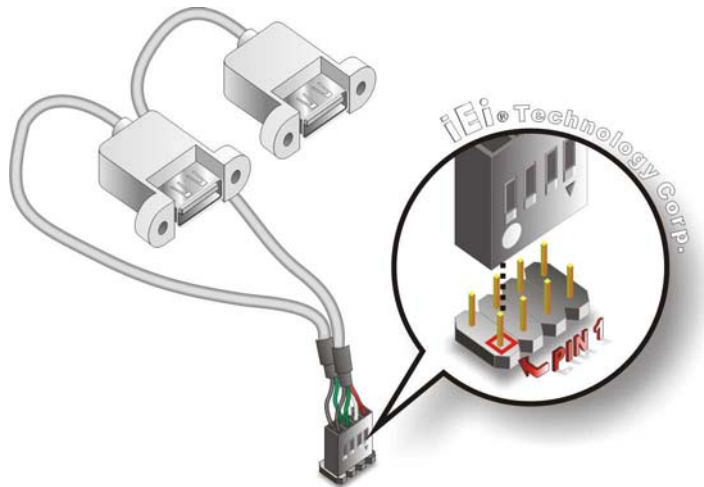

Figure 4-15: Dual USB Cable Connection
Step 3: Insert the cable connectors. Once the cable connectors are properly aligned with the USB connectors on the NANO-HM651, connect the cable connectors to the on-board connectors. See Figure 4-15.